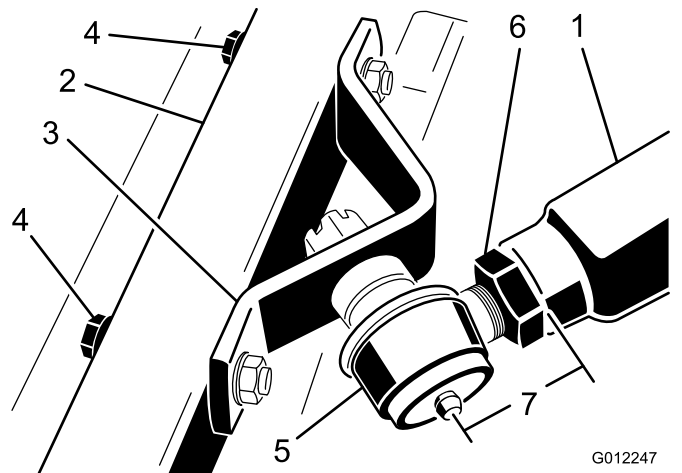

Figure 9
2. Screw the ball joint into the right-hand push arm until the center of the ball joint is 60 mm (2-3/8 inches) away from the front of the push arm (Fig. 9).
6. Tighten the large jam nut securing the ball joint to the push arm (Figure 9).